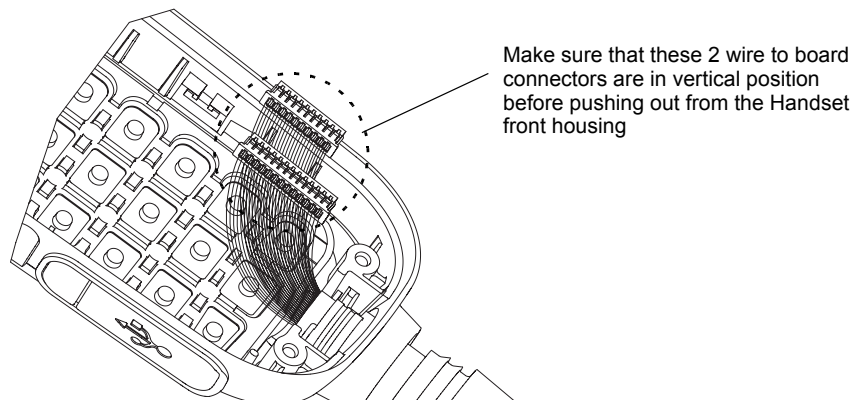

Figure 6-36 Spiral Cord Cable Removal 2
- 20. Remove the spiral cord cable from the Handset front housing by pushing the two wire to board connectors in vertical position out of the Handset front housing. Refer to Figure 6-36.